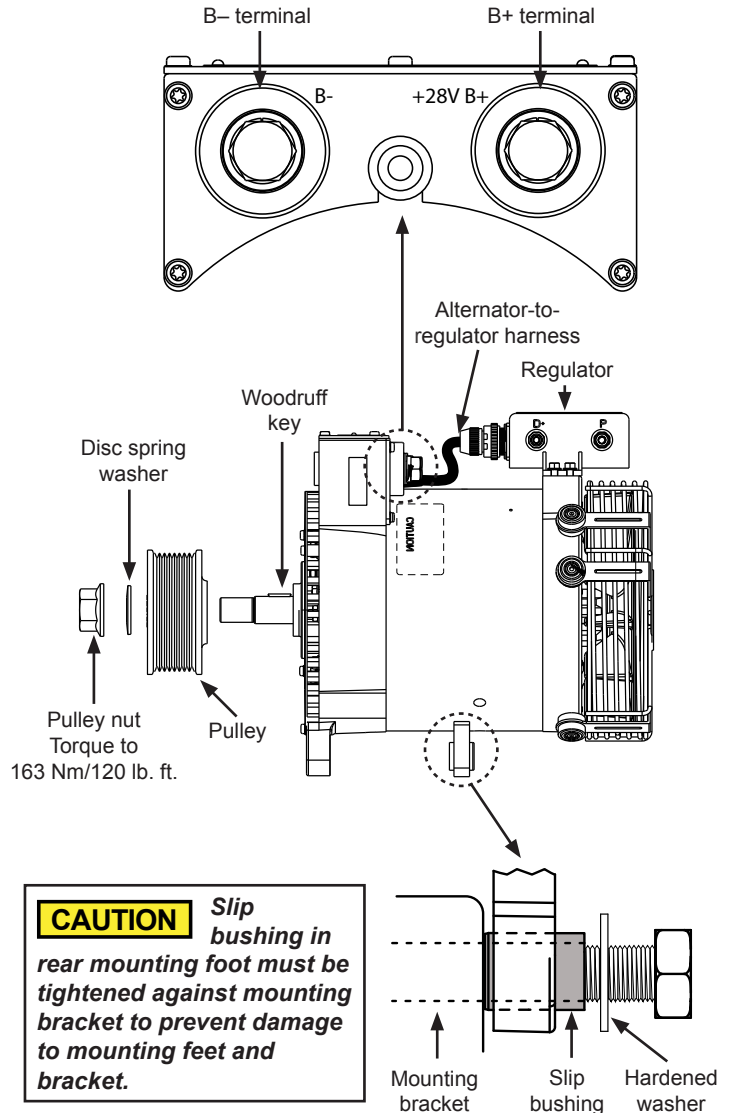

Figure 1: C659 Alternator Connections
2. Install pulley and furnished disc spring washer with beveled side facing pulley. Torque pulley nut to 163 Nm/120 lb. ft. See Figure 1.
7. Connect alternator-to-regulator harness to regulator as shown in Figure 1.